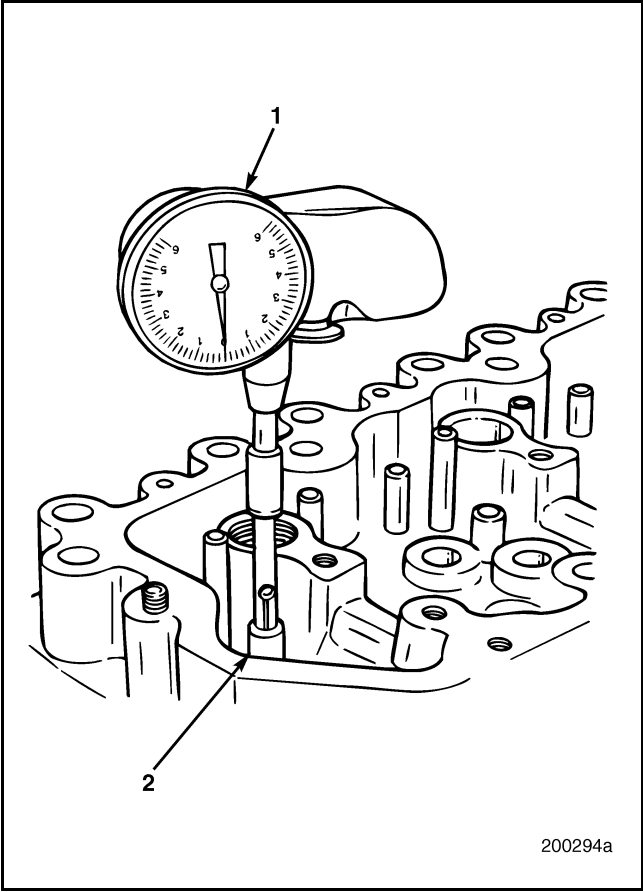

Figure 256 — Measuring Valve Guide Bore
1. Inspect the valve guides for wear, damage, cracks and looseness. Use a small bore gauge to obtain an accurate valve guide bore measurement (Figure 256).